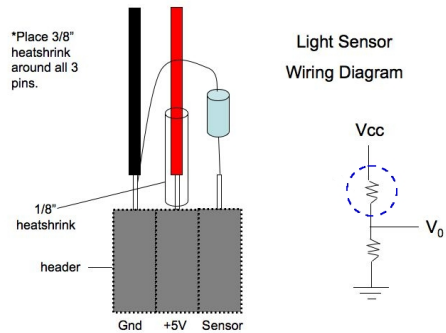

Figure 13: Wiring diagram of the light sensor.
1. Consult the wiring of the light sensor on the exemplar, and Figure 13.